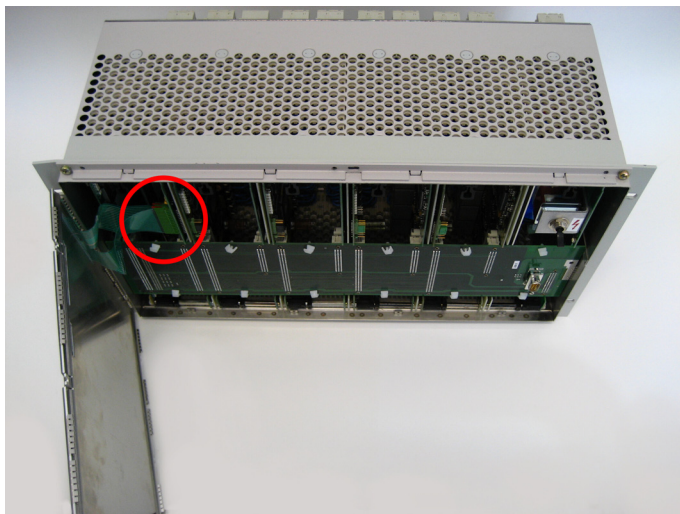

Figure 1-4 Connection of ribbon cable
- ❑ Carefully pull the plug connectors of the two ribbon cables out of the CPU board and set the front plate aside (see Figure 1-4).